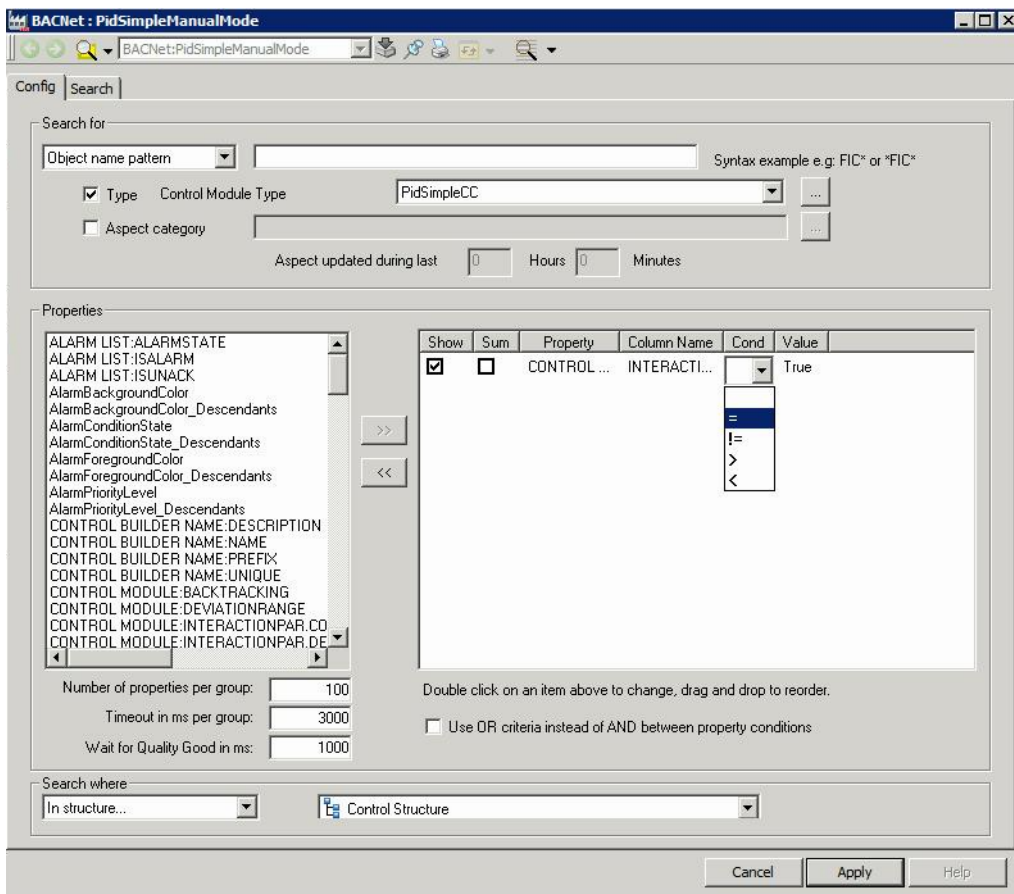

Figure 15. Narrow down the PidSimpleReal in Manual search
8. After the test search go back to the Config tab and specify the search to only present PidSimpleReal objects in manual mode which are present in the control structure. Double-click in the **Cond** field as shown in Figure 15 and select =, also set true in the Value field. Specify the Control Structure in the **Search where** configuration area.